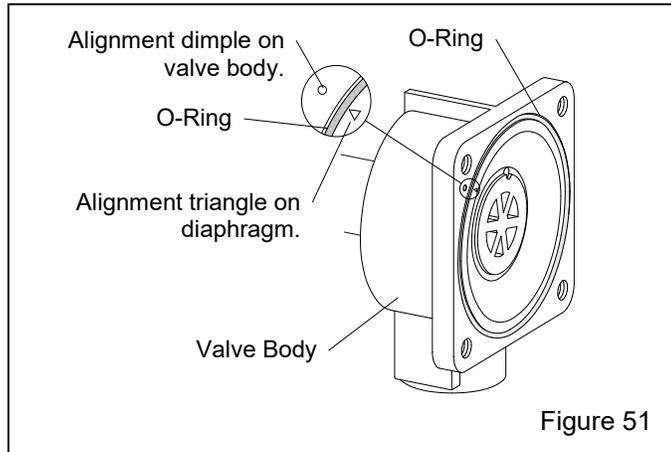

Figure 51
7.17.2 Remove the four cover screws and remove the cover, while keeping the diaphragm in place within the body. **NOTE: Before removing the diaphragm and O-ring, note the round dimple on the upper left on the valve body and the position of the triangular shape on the upper left of the diaphragm, as shown in Figure 51. When reinstalling the diaphragm, the marks must be aligned as shown.**
7.17.3 Reassemble using the new diaphragm and O-ring from the service kit, making sure the diaphragm is correctly aligned, as noted in Figures 51 and 52, and that the O-ring is seated into the groove.